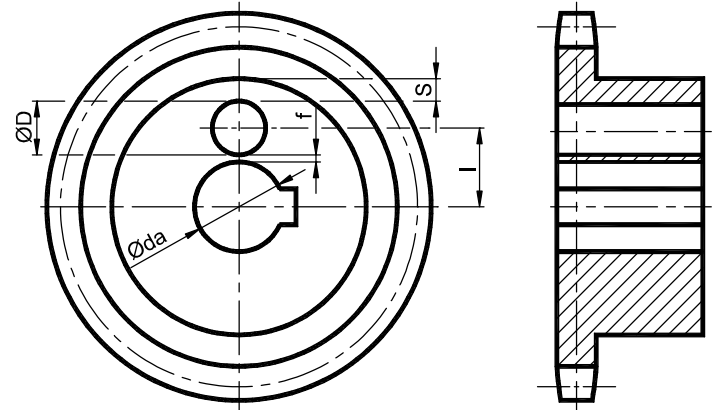

Fig.1
**USE** Dovetailer expansion, primarily used to eliminate the axial displacements and games between hub and shaft, in addition to the key (Fig.1).